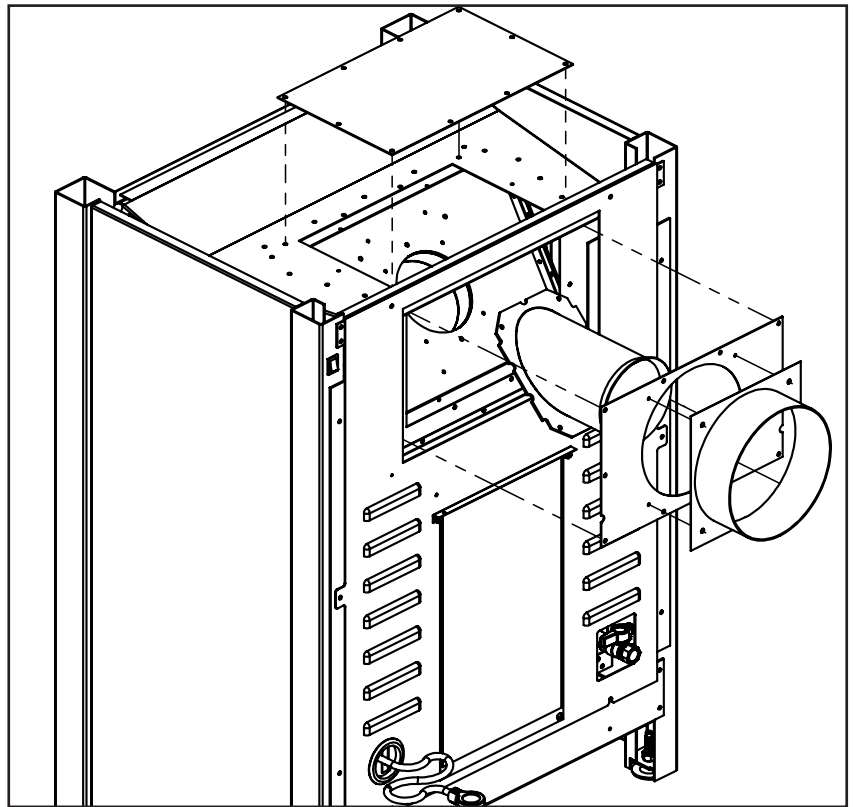

Figure 27: Vent Conversion - Step 3
Step 3: Switch the removed parts around as shown in Figure 27 and re-install all 28 screws. To correctly install the base plate keep the locating notch on each side at the bottom. Also note the exhaust spigot uses a lower set of holes when setup as a rear vent.
A 10" (254 mm) x 10" (254 mm) frame (see Figure 27) will assure the proper support and spacing for the vent pipe as it passes through the wall. Installations in Canada require that a wall thimble be used for passing through walls and ceilings. All sealing and vapour barriers must comply with local building codes.